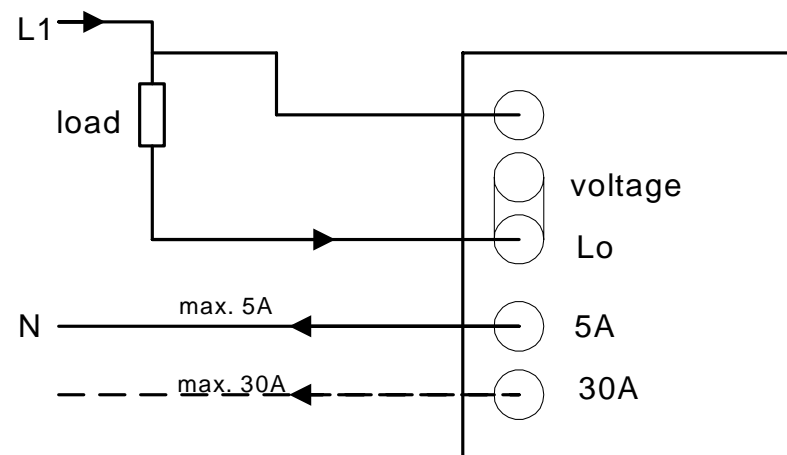

Fig. 4.3 Spectral Multimeter wiring in a single phase system
To measure voltage, current, power and related quantities in a circuit connect the test leads as shown in figure 4.3 and described below.
- Break the circuit and connect phase L1 to the voltage input and current input as shown in figure 4.3.